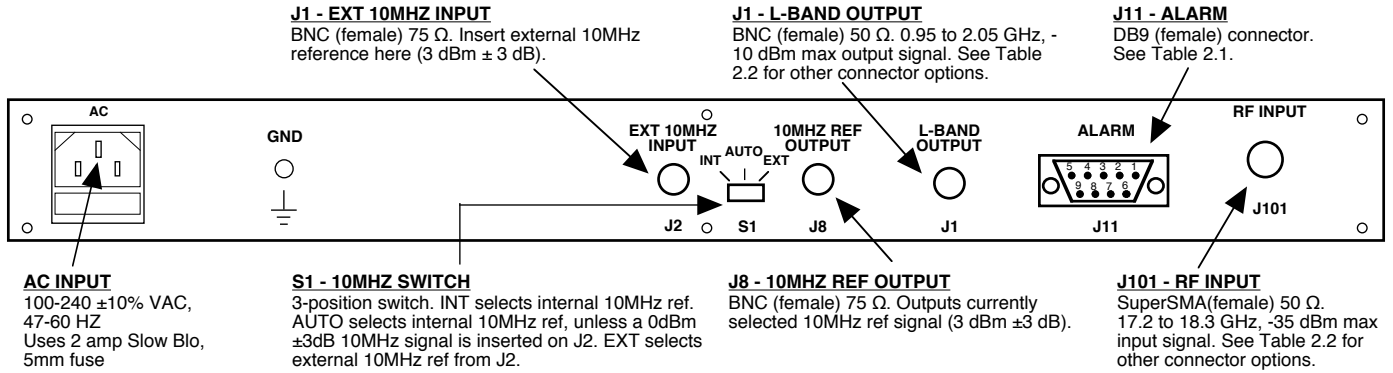

FIGURE 2.1 2116-172183 Rear Panel I/O's
2.2 Rear Panel Input/Output Signals - Figure 2.1 shows the input and output connectors on the rear panel.
- 1.) Connect a -55 dBm to -35 dBm signal to RF INPUT, J101 (Figure 2.1).
- 5.) Select either INT (for internal 10MHz ref), AUTO (for internal 10MHz ref UNLESS a external 10MHz, 0 dBm signal is connected to J2), or EXT (for external 10MHz, 0 dBm ref that is inserted at J2) on rear panel switch S1 (Figure 2.1).
- 7.) Check that a 10MHz, 0 dBm \pm 3 dB signal is present at the 10MHZ REF OUTPUT (J8) (Figure 2.1).